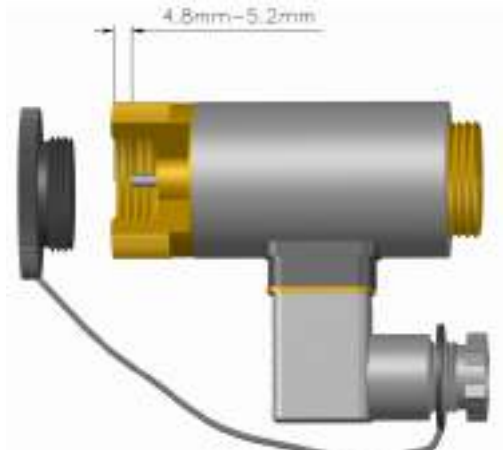

Figure 41 Removable Electrical Actuator Non-Fire Position
- Carefully screw the removable electrical actuator onto the cylinder valve. **Prior to fitting, ensure the unit is reset in the non-fire position (Pin is retracted). (Normally height from end of pin to base is 4.8 to 5.2mm) (See Figure 41)**